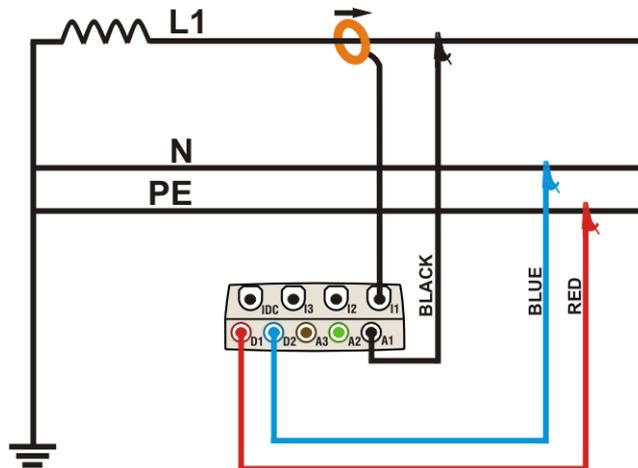

Fig. 254: Meter connection in a Single phase system
2. Connect voltage test leads on Phase, Neutral and Ground cables considering the colours as shown in Fig. 254).
3. Connect the transducer current clamp on L1 Phase cable as shown in Fig. 254) respecting the clamp's arrow direction indicating the current standard sequence from generator to load. **On Real Time Values' section screens always verify the positive value of Active Power and the power factor relative to load which should be normally inductive** before starting a recording. Reverse the clamp by 180 degrees on cables in case of negative readings.